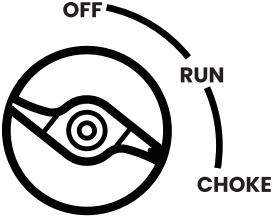

Figure 6: Turn Engine/Fuel Switch to CHOKE Position
2. Turn the engine/fuel control switch to the **CHOKE** position (see Figure 6).